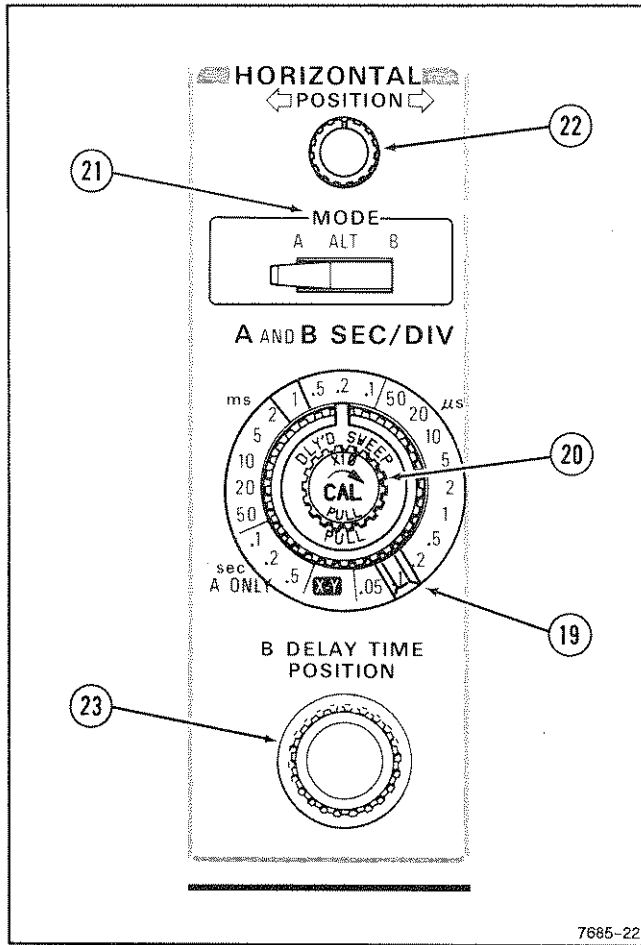

Figure 2-5. Horizontal controls.
Refer to Figure 2-5 for location of items 19 through 23.